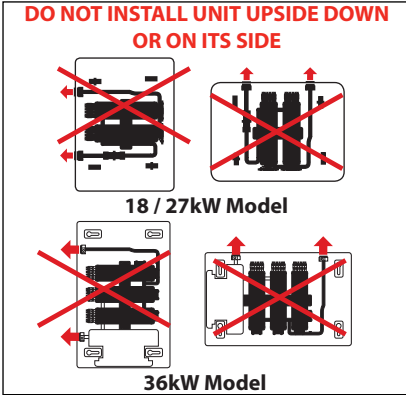

Figure 3 - DO NOT INSTALL UNIT UPSIDE DOWN
- The appliance must be mounted horizontally, with water inlets and outlets at the bottom. See Figure 3.
- Do not install the appliance with water inlets and outlets at the top. See Figure 3.